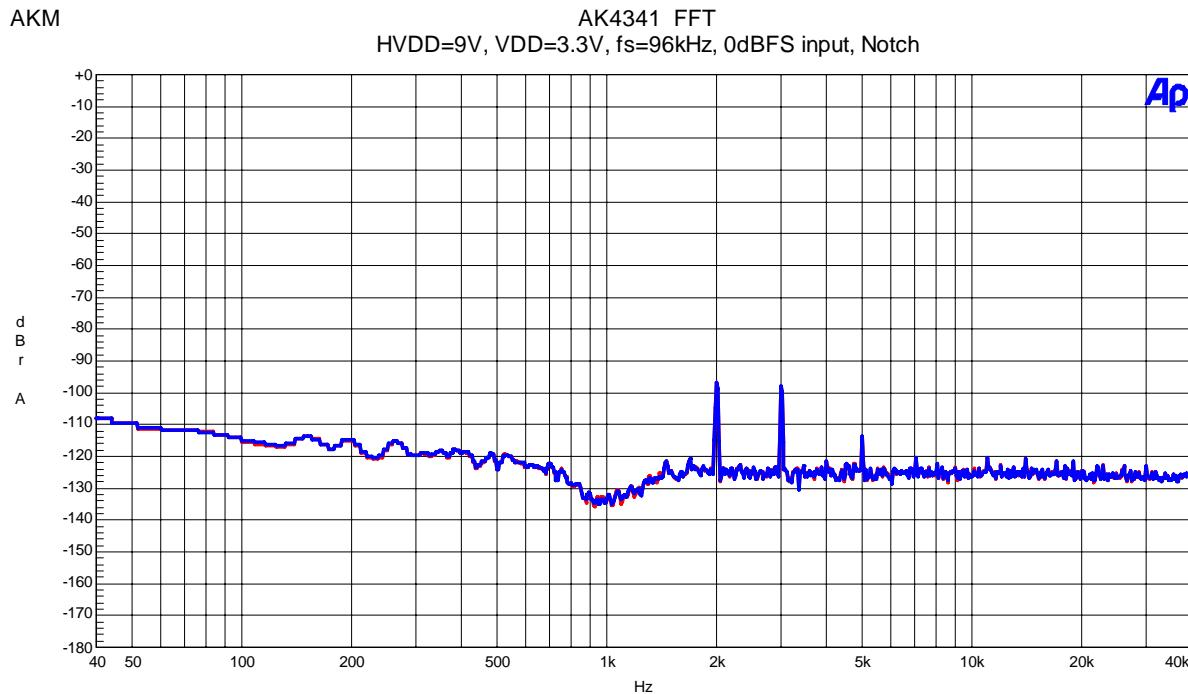

Figure 18. FFT(Input Frequency=1kHz, Input Level=0dBFS, Notch-on)
- Figure 18. FFT (Input Frequency =1kHz, Input Level =0dBFS,Notch-on)